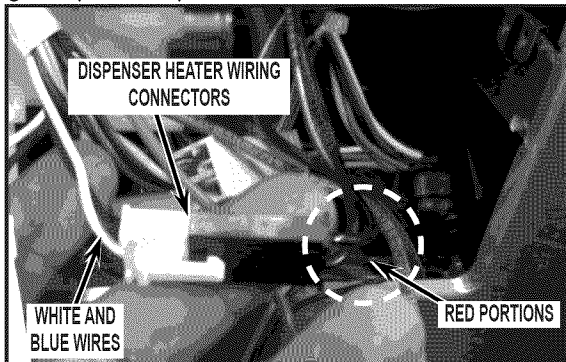

FIGURE 14
- Disconnect the dispenser heater harness from its connectors. See *Figure 14*.